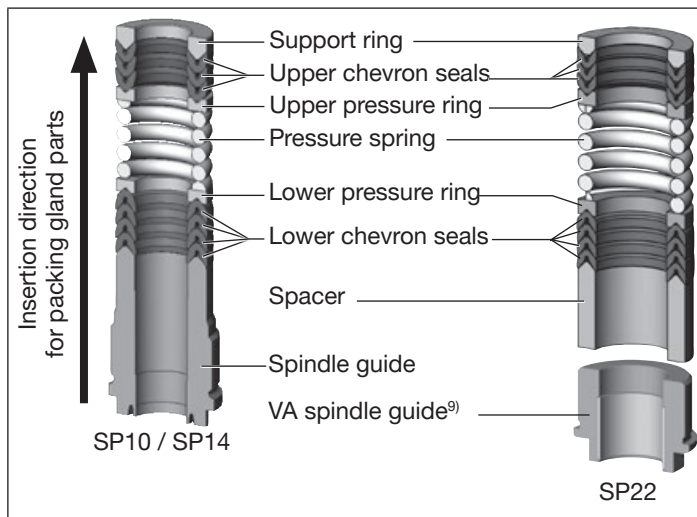

Fig. 31: Seal set for packing gland
- Connect the individual parts to the spindle in the specified direction and sequence (as illustrated in “Fig. 31: Seal set for packing gland”).